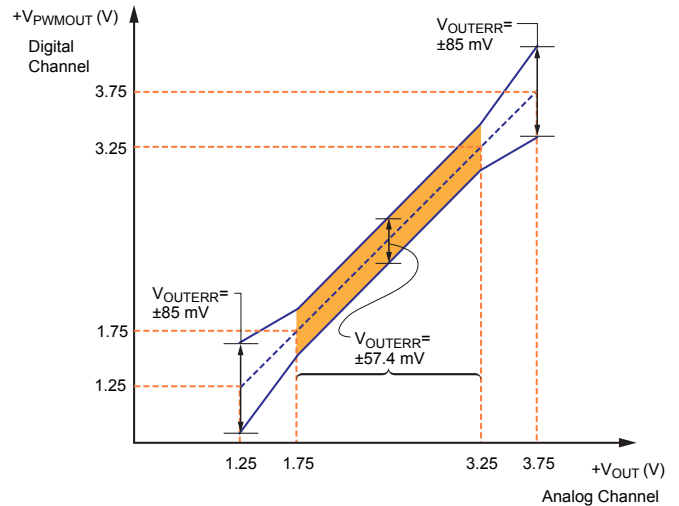

Figure 6: Definition of PWM to Analog Output Mismatch, V_{OUTERR}
$D_{(Q)}$ is the quiescent PWM signal with no input field ($B = 0$ G), and $D_{(field)}$ is the PWM signal in response to the input magnetic field. In other words, the product of PWM sensitivity (%D/G) and input magnetic field (G). (See Figure 6.)